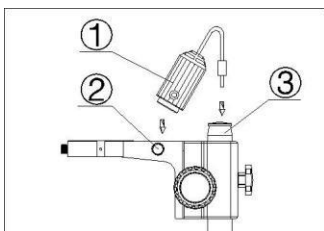

Fig.6
- 1) Insert the illumination device(1) in the bracket with the protrudent side toward the lock-screw(2) and tighten the lock-screw. (Fig.6)